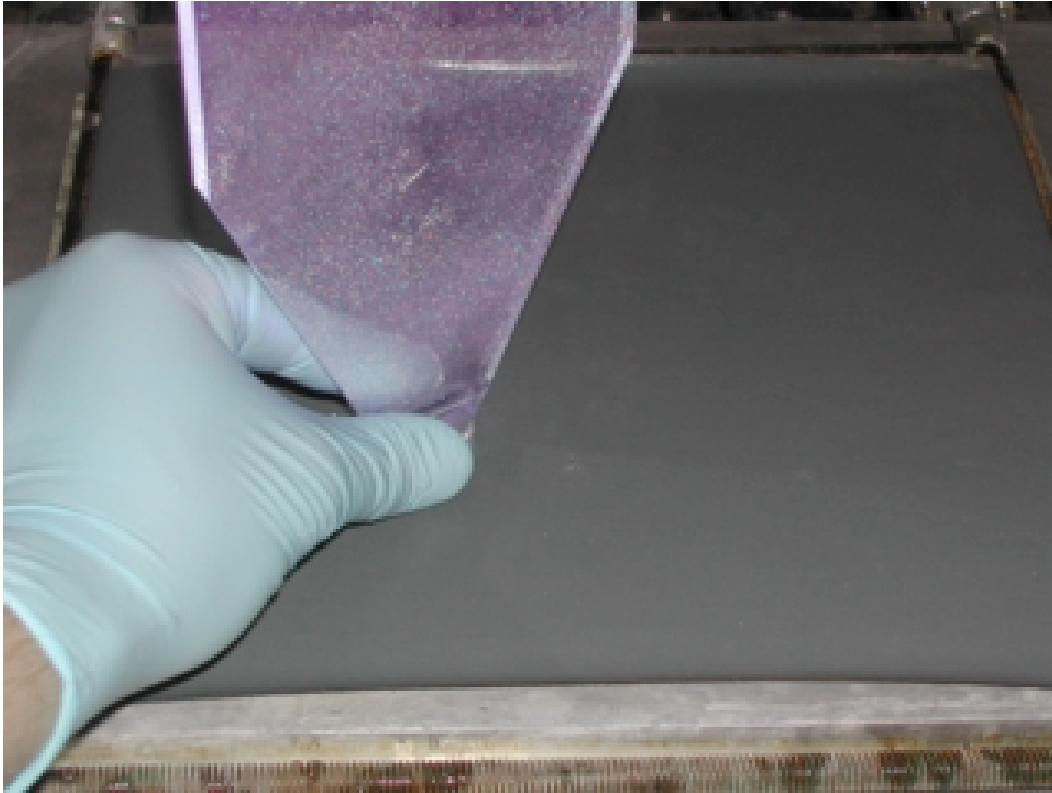

Figure 6: Scintillator end being coarsely sanded.
4. **Firmly hold the edge of the scintillator flat against the sand paper and push along it in a straight path until you reach the end of the paper.** See Figure 6 for illustration.